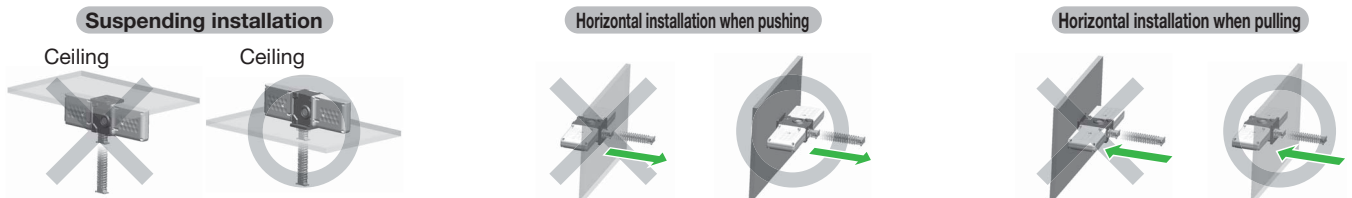

Figure 1 — Acceptable installation directions (Example)
- The ZCA can be installed in the vertical lifting or suspending directions or horizontally. However, when installed horizontally or in a suspending position, do not allow the weight of the unit and the weight of conveyed items to be placed on the mounting bolts. Operating the unit in such a condition may result in damage to the unit. Install the unit in a manner that prevents the mounting bolts from receiving any of the load. (Figure 1)